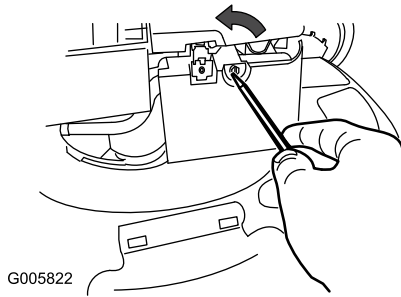

Figure 23
1. Use a screw driver to open the air filter cover (Figure 23).